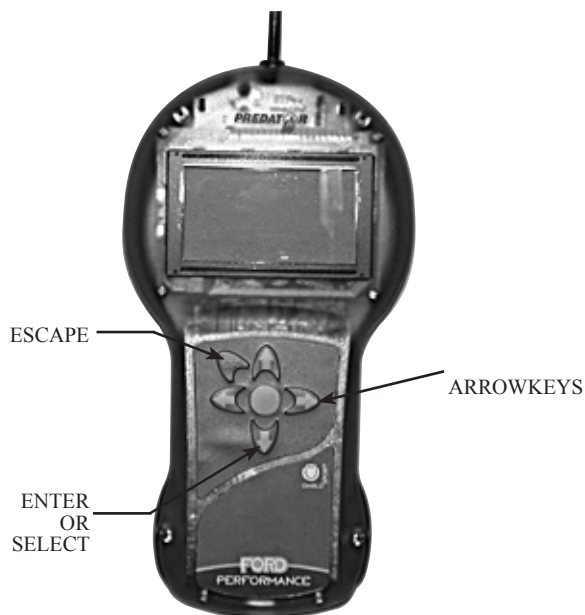

Fig. 14-c
- E. Select "Performance Tune" and press the enter button in the middle of the arrow keys. (See Fig 14-c.)